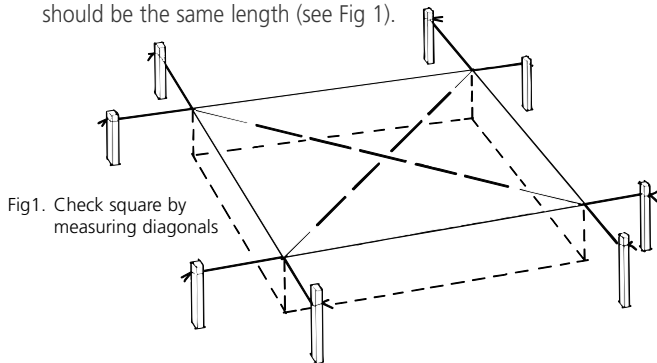

Fig1. Check square by measuring diagonals
- Measure and mark out the site using a string line (see Fig 1).
- Check the area is square by measuring the diagonals – they should be the same length (see Fig 1).